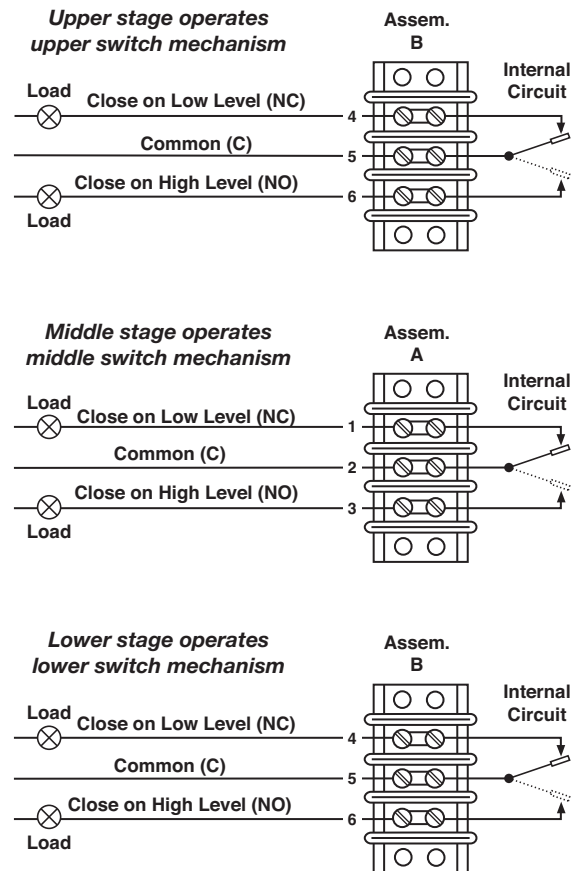

Figure 12
1. Rising level closes contacts 5 & 6 and 2 & 3, see Figure 12.